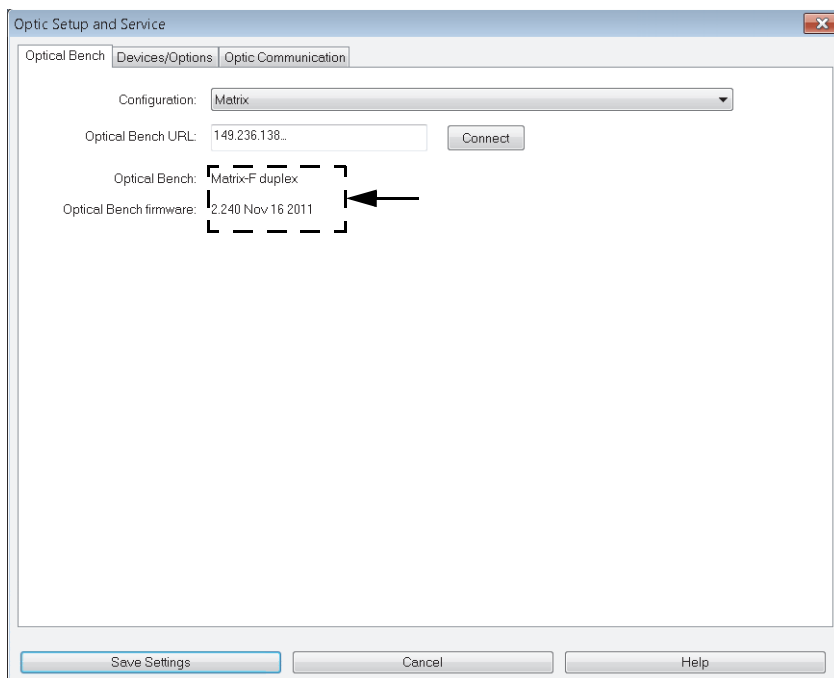

Figure 4.3: Spectrometer connecting data
- *The spectrometer is connected as soon as the spectrometer name and firmware version are displayed (figure 4.3). If the connection has been successful, the OPUS status light is green.*